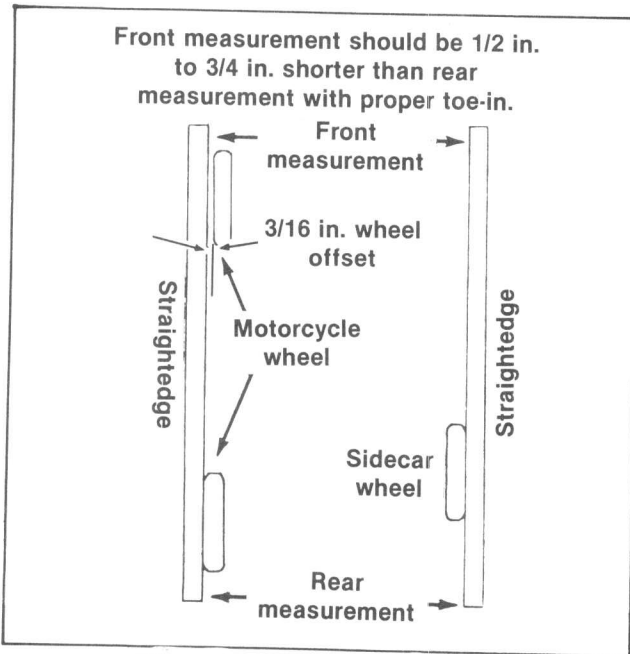

Figure 6-6. Toe-in Adjustment
3. See Figure 6-6. The rear ball joint, when adjusted properly, should provide $1/2$ to $3/4$ inch toe-in at front of motorcycle. Loosen locknuts securing ball joint and screw ball joint in or out to achieve proper toe-in. Re-tighten locknuts. Recheck sidecar wheel perpendicularity and adjust if required. Tighten U-bolt nuts to 25 ft-lbs torque. Tighten set screws to 8 ft-lbs torque. Remove blocking supporting sidecar..